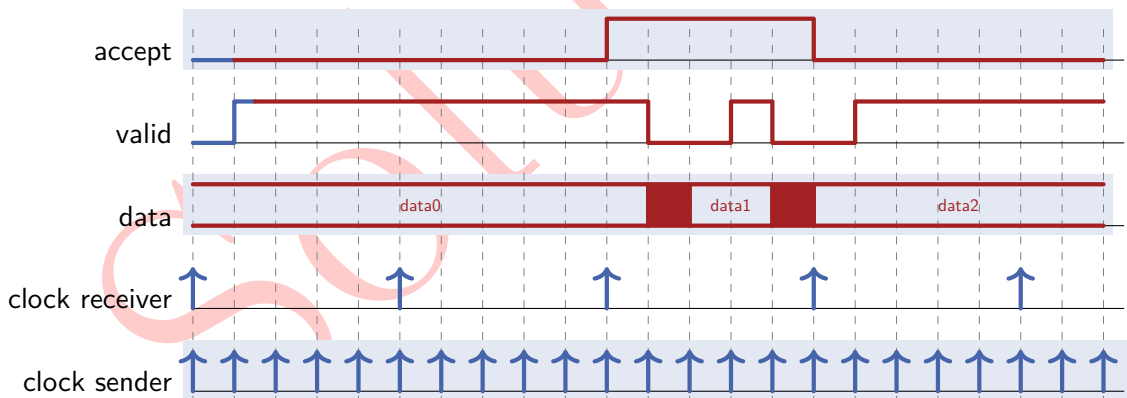

Figure 2.2: Signal progression diagram
A) In Figure 2.2 the sensitive clock edges of the sender and the receiver as well as the signal values for the first sender clock period are shown. In order to avoid violations of setup and hold times, the data is put onto the bus and one clock cycle later the valid signal is set to '1' by the sender. The receiver will also set the accept signal one clock cycle after having received the data. Fill in the progression of all signal lines until the end of the time scale.